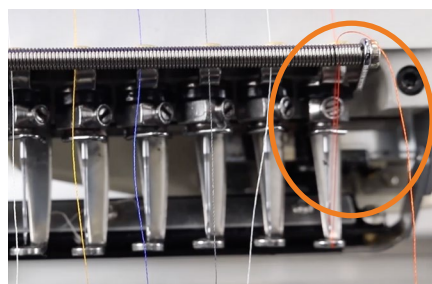

Figure 113
2. Rest the thread on the holding spring, leaving about 1 inch of thread hanging. **See Figure 113.**